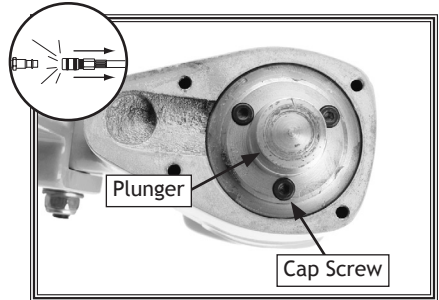

Figure 9. Plunger and cap screws.
- Remove the three cap screws from the top of the plunger (see Figure 9).